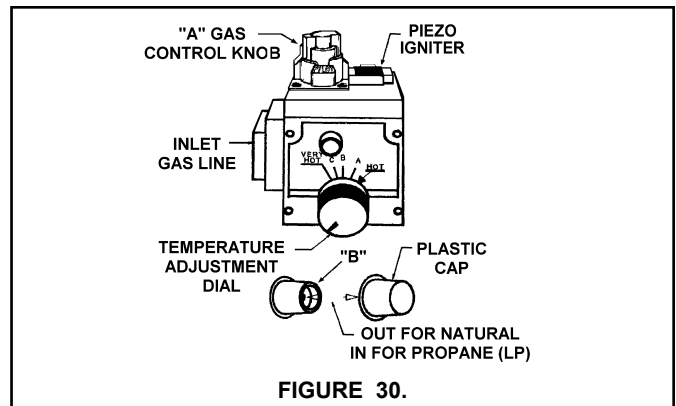

FIGURE 30.
Step 1. Turn gas control knob "A" to "PILOT". Depress and turn "OFF", see Figure 30 page 19.
Step 8. Place screwdriver in slot "B", see Figure 30 on page 19. Depress and turn counterclockwise (↺) to stop. Control screw must be in "IN" position for propane (L.P.) gas and in "OUT" position for natural gas. STOP! Read label "For Your Safety" located on your water heater.
Step 16. Make sure temperature adjustment dial is turned clockwise (↻) in its lowest position, see Figure 30 page 19.